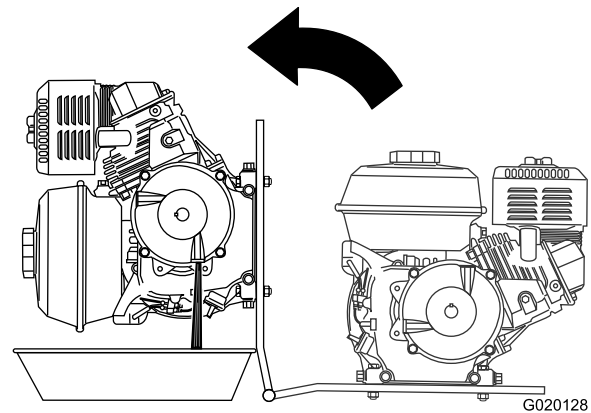

Figure 66
5. Align a drain pan to the hinge of the engine deck (Figure 66).
6. Rotate the engine on the hinge side of the engine deck, and drain the oil from the reduction case (Figure 66).